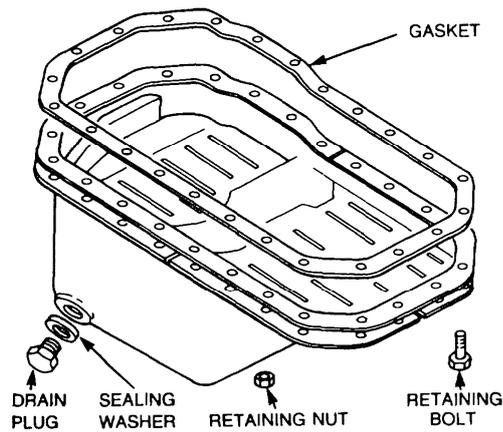

Figure 12 Engine Sump Removal
- e. Remove the sump and the supporting plates (Figure 12).